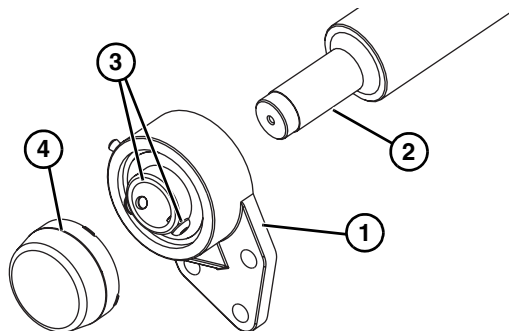

Figure 97
1. Slide the bearing flange assembly (**Figure 97, item 1**), onto the spindle shaft end (**Figure 97, item 2**).
2. Use a hex wrench to tighten the bearing shaft assembly fasteners (**Figure 97, item 3**).
3. Install the bearing cover (**Figure 97, item 4**).